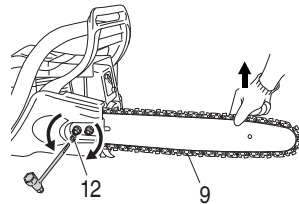

Fig. 7
7. Raise the bar end, and tighten the saw chain (9) by turning the tension adjustment bolt (12) clockwise. To check proper tension, lightly lift up the center of chain and there should be about 0.02 – 0.04" (0.5 – 1.0 mm) clearance between bar and edge of drive link (13). (Fig. 7, 8)